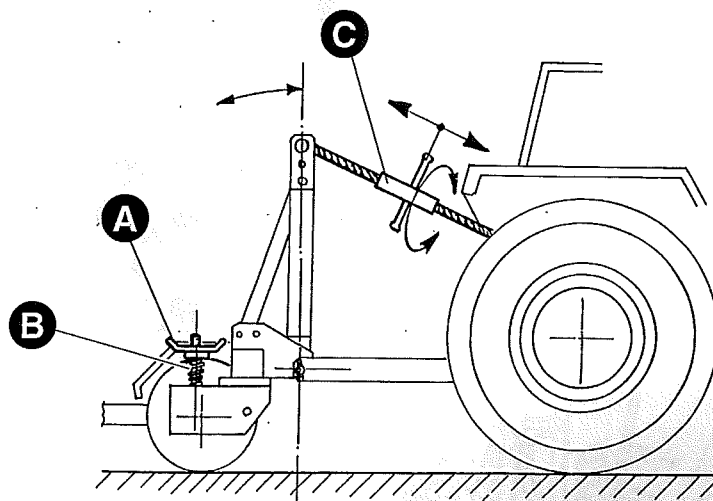

FIG. 18
22.1 - Lengthen the adjustable arm of the tractor's third point (fig. 18.C)
22.2 - Tighten the adjustment device (fig. 18.A) to give more pressure to the spring (fig. 18.B)